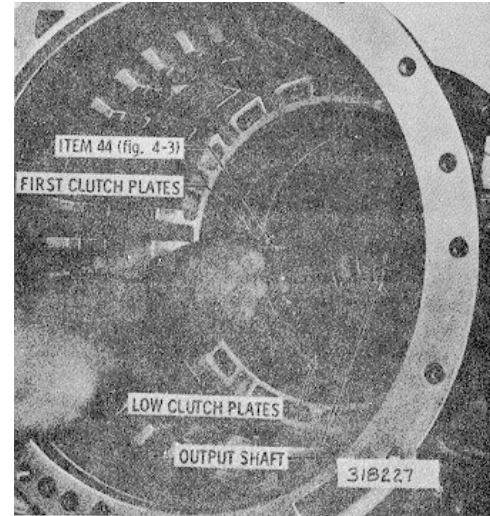

Fig. 7.10. Checking low clutch clearance
(6) Invert the transmission, front end upward. Using gage 44 (Fig. 4-3), check the clearance between the low clutch plates (fig. 7-10). It is recommended the gage be placed between the adapter housing wall and the first steelplate. The prescribed running clearance is 0.095 to 0.145 inch (2.41 to 3.68 mm). Any dimension within 0.095 to 0.145 inch (2.41 to 3.68 mm) is satisfactory. However, the closer the clearance is to 0.095 inch, the longer the interval between clutch plate replacements will be. Clearance must not be less than 0.095 inch. Replace worn clutch plates with new plates to establish the desired clearance. Recheck the clearance as described above.